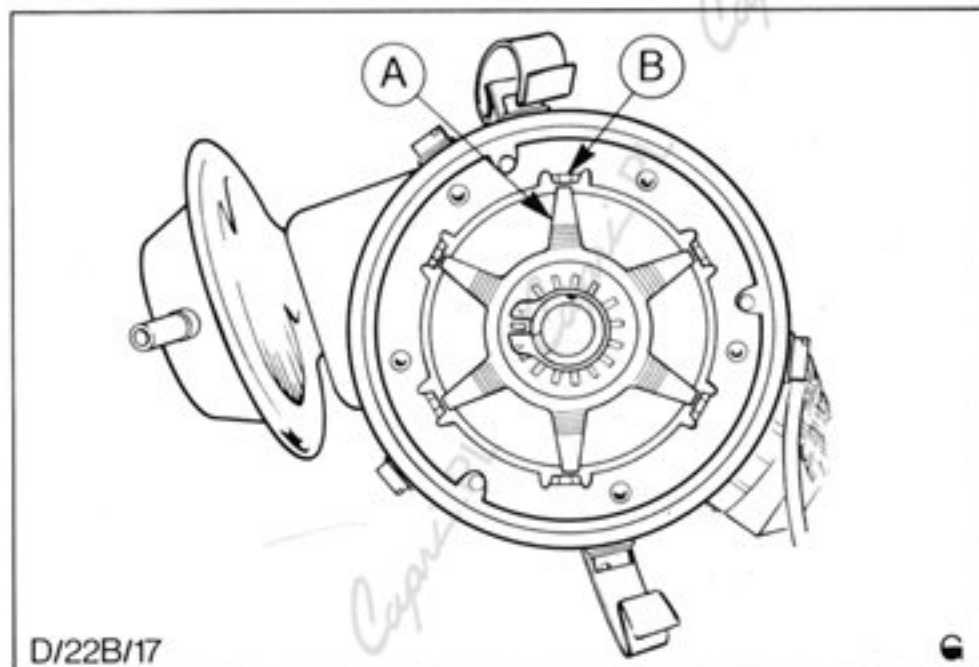

Fig.45. Distributor installed with trigger wheel and stator arms correctly lined up.
8. Rotate complete distributor until arms of trigger wheel and stator line up correctly, Fig.45.